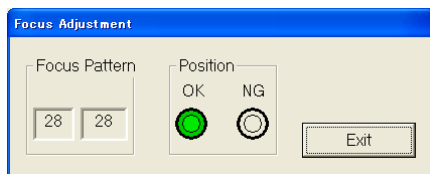

Fig. 4-8-3
- 3) Set the zoom position to Wide end and the focus position to infinity end, then check that the OK (Green) indicator of “Position” lights as shown in Fig. 4-8-3.